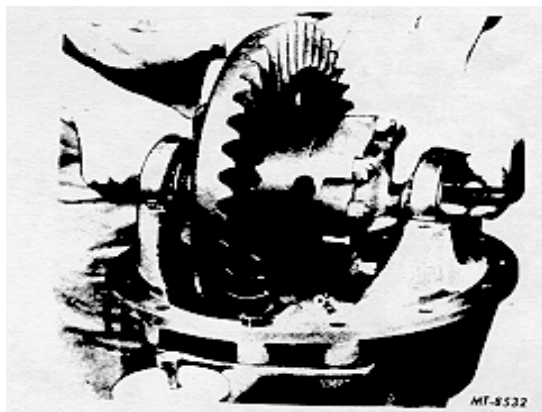

Fig. 11. Lifting out Differential and Gear Assembly
4. Tip differential away from pinion and lift assembly out of the differential housing, Fig. 11.